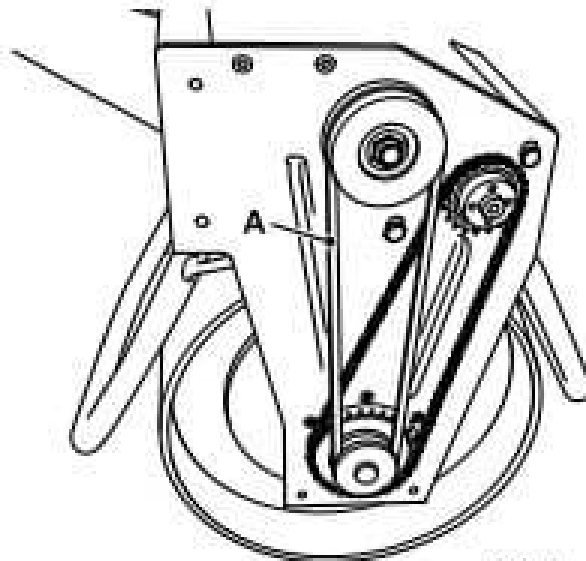

Fig 14.
- 2 Using the adjustment available at the shaft bearing mounting points, adjust the tension of the drive belt **A** so that there is a 6mm deflection for a 3kg force (mid span). → Fig 14. (D 3-24).